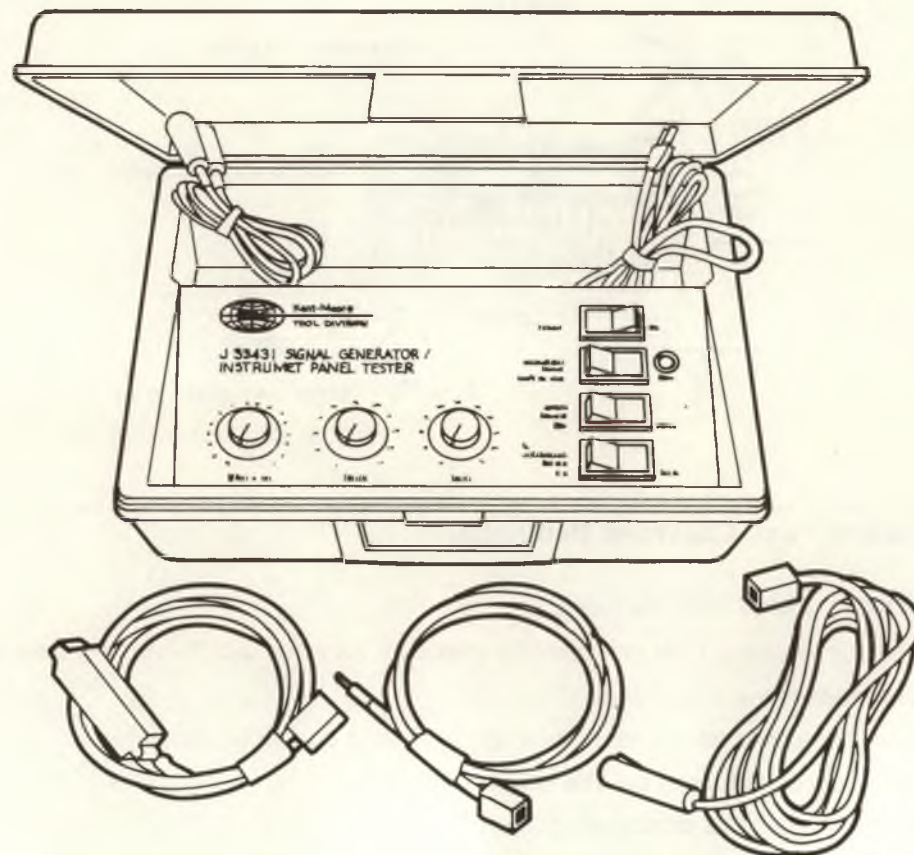

Figure 4-2, Speedometer Signal Generator J-33431.
- Step 8** Use speedometer Signal Generator J-33431 (figure 4-2) to perform the following functional check: